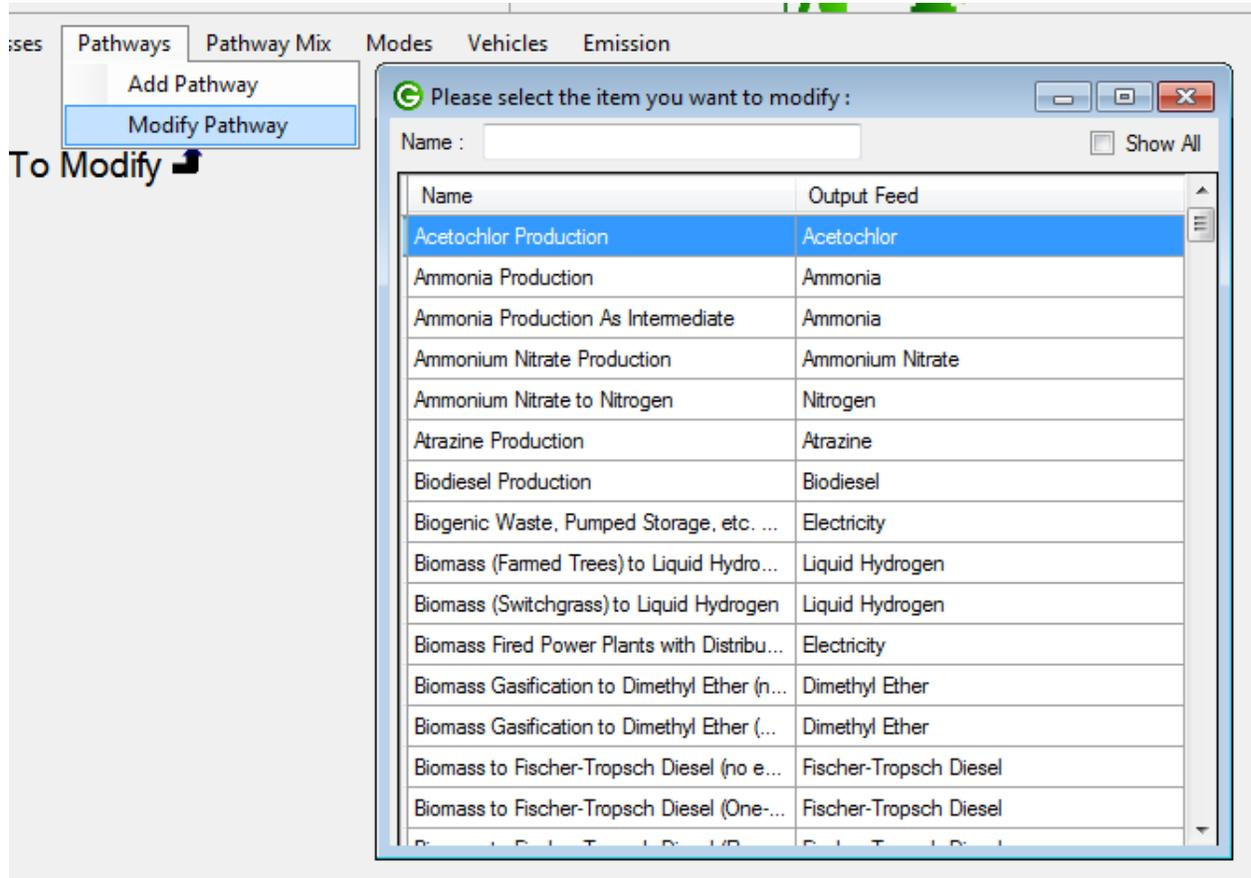

Figure 65: Select an Existing Pathway for Modifications
**Modifying an existing pathway:** To modify an existing pathway, open the **Data Editor** main pane; then open the **Pathway** menu, and select **Modify Pathway**. A new pop-up window will appear, and you will have to select which pathway you want to modify. See Figure 65.